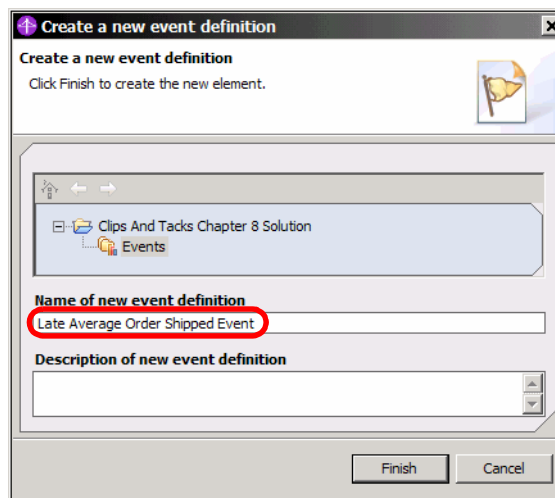

Figure 8-31 Creating an event
- ▶ Select *Events* and *New Event Definition*. In the dialog (Figure 8-31) enter a name, for example, **Late Average Order Shipped Event**.